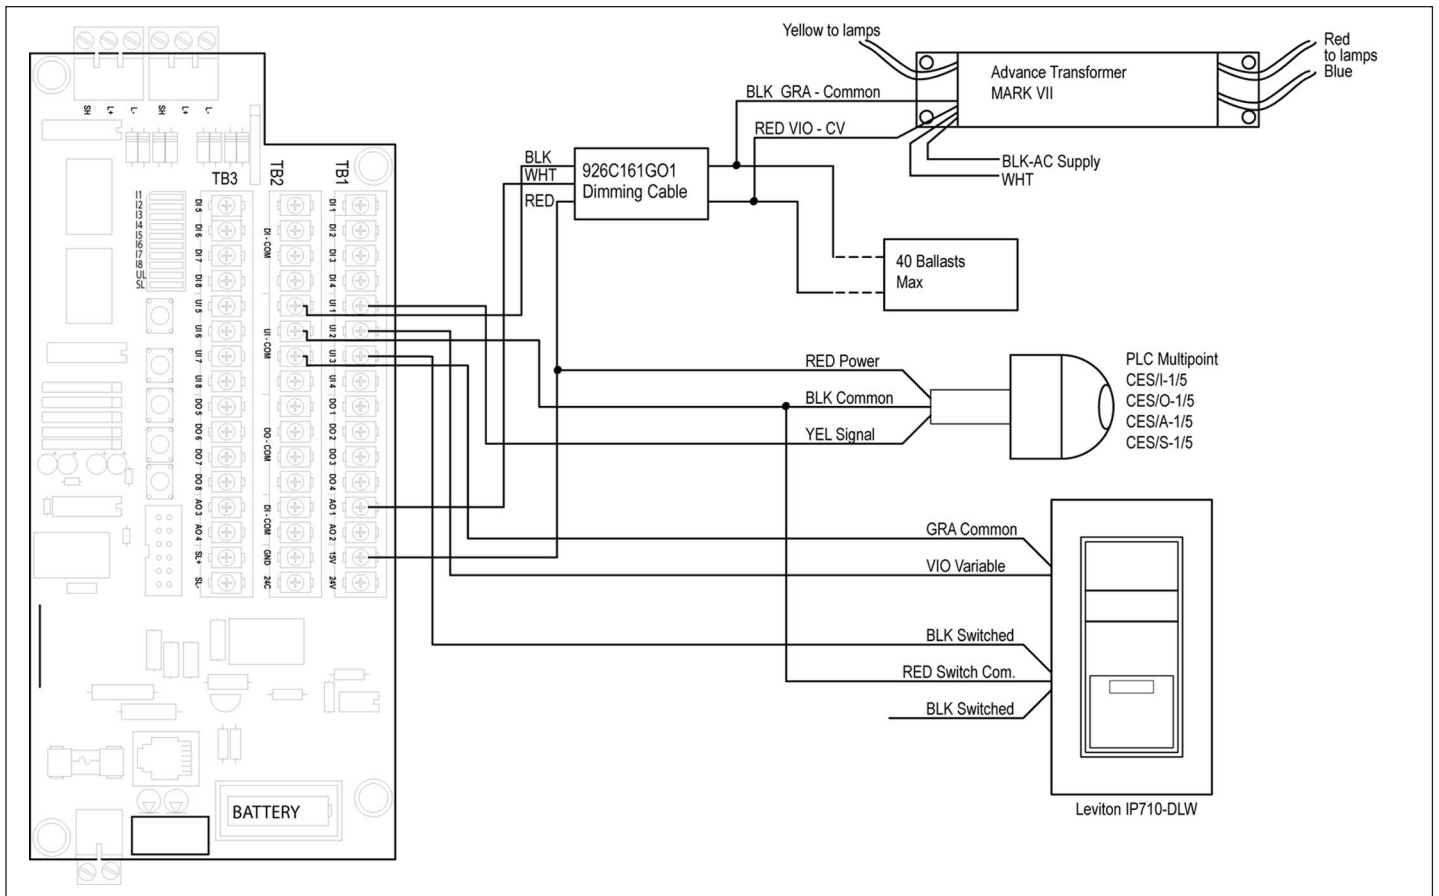

FIGURE 20. SWITCH INPUT EXAMPLE — MANUAL AND AUTOMATIC DIMMING CONTROL
The major components required for manual and automatic dimming control are represented in **Figure 20**. Certain parameters must be entered into the system to compensate for the different characteristics of the devices. For example, the PLC Multipoint® photo sensors listed in **Figure 20** have different footcandle (FC) ranges but all have 1 – 5 V DC signals. The conversion to percent or units would be determined at the time of startup. Using the connections shown here, control strategies such as lumen maintenance, daylight harvesting, manual control, and manual control to a variable set point can be accomplished through programming the controller database.